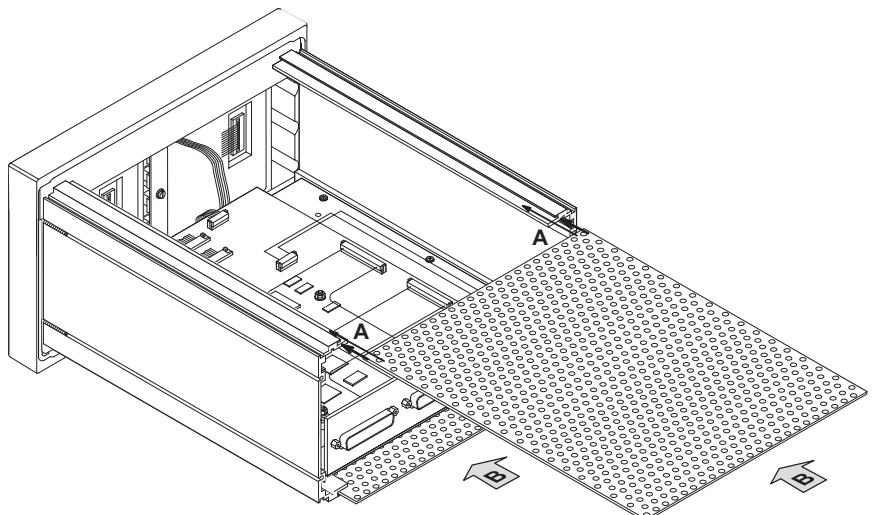

Fig. 8-33: Moving back the perforated cover metal plates
19. Put the perforated cover metal plates into their guideways (fig. 8-33, A) and move them back to their place (fig. 8-33, B). Fasten the ground cables.